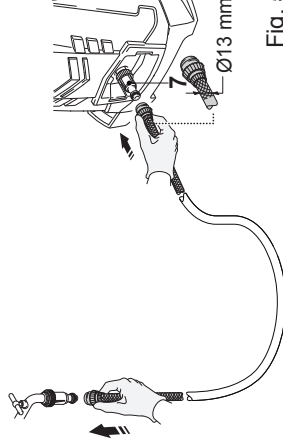

Fig. 5
5. Attach a suitable water hose to the water supply and then attach the other end to the water hose inlet connector (7) of the product (Fig. 5).